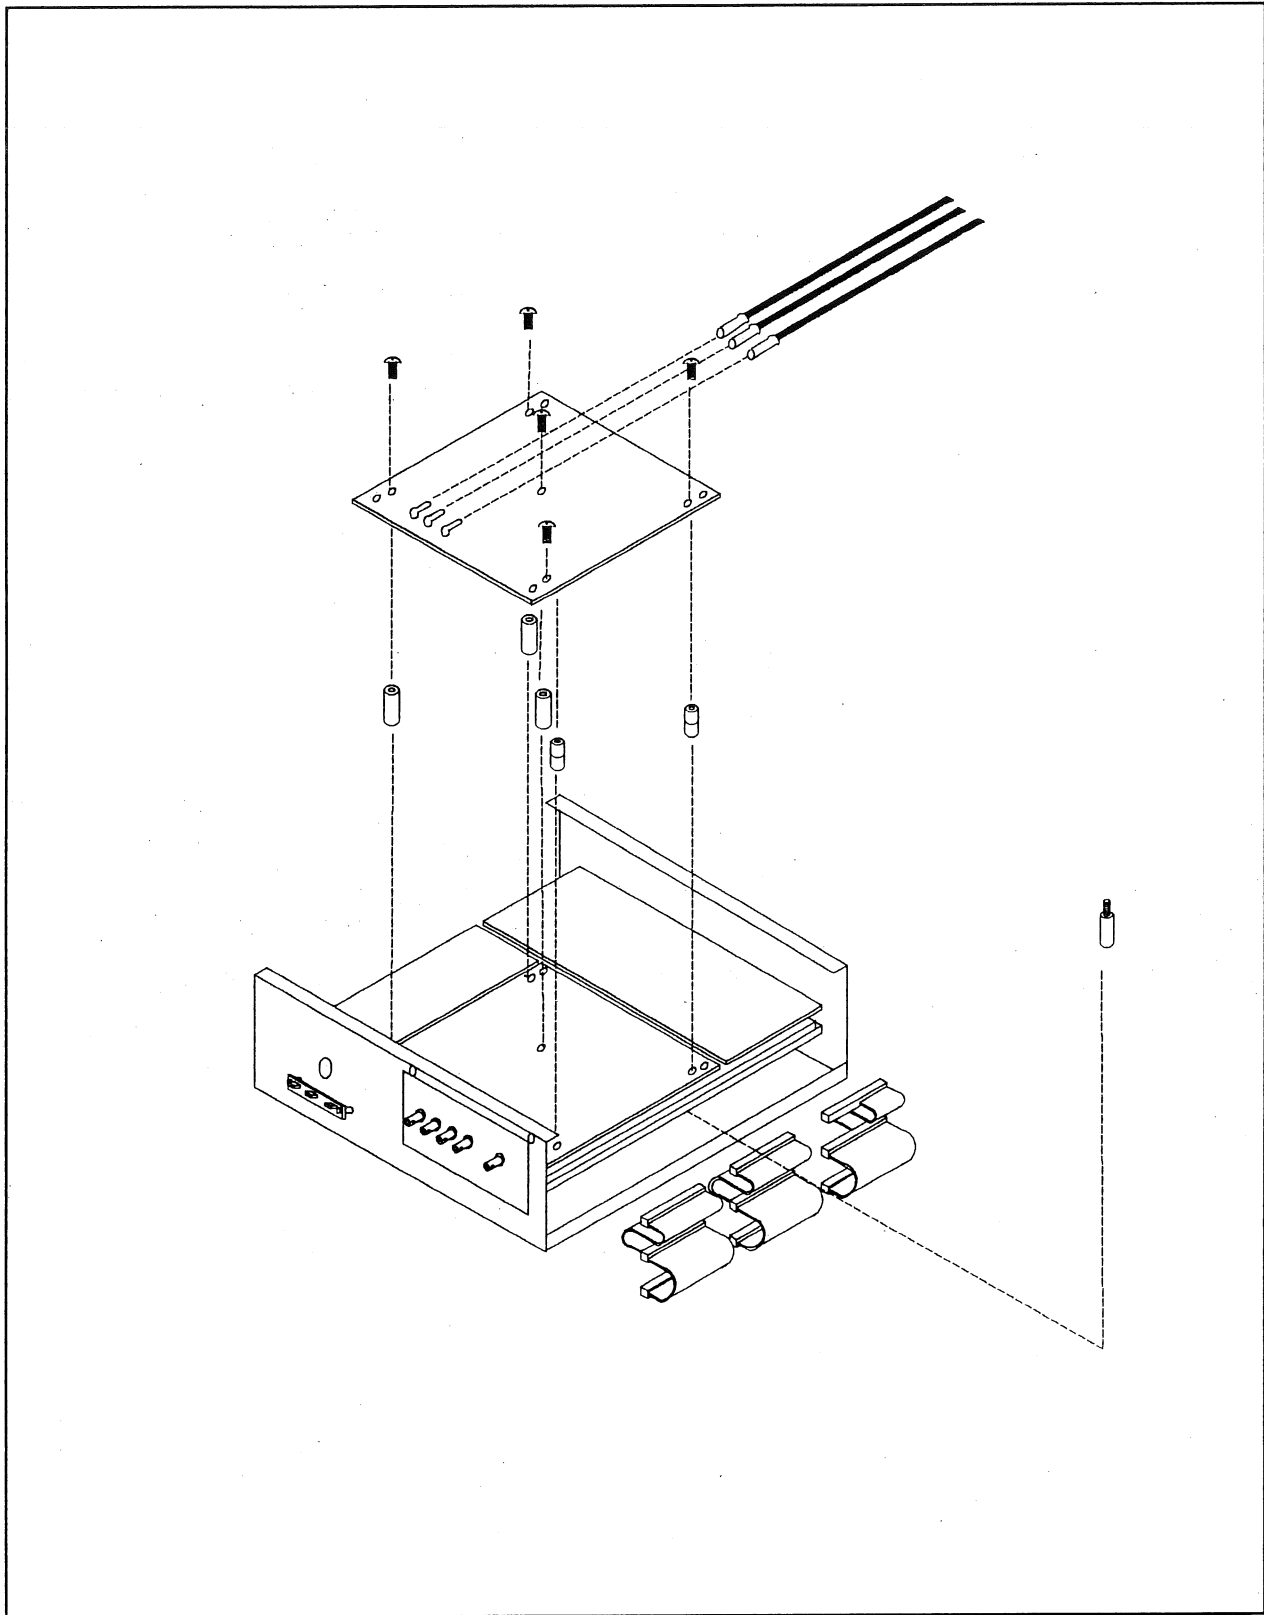

Figure 3-2. Removing the DFE Boards
- 2** Remove the three coax cables from the DFE Board. See Figure 3-2.
- 3** Remove the five screws that hold the DFE Board to the Mother Board or the lower DFE Board. See Figure 3-2.
- 4** Disconnect the three flat ribbon cables. See Figure 3-2.